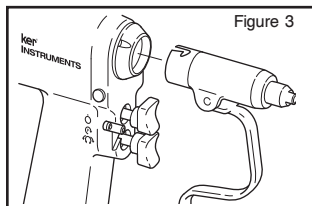

Figure 3
3. To install an accessory, align its J-slot with the top of the handpiece. The accessory will snap into place. Tug the accessory to ensure it is secure. Figure 3.